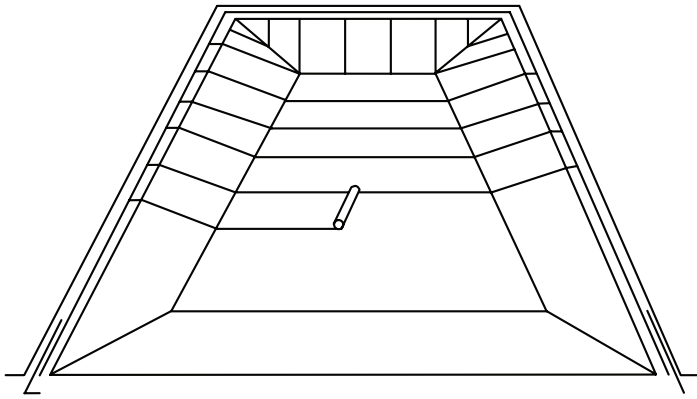
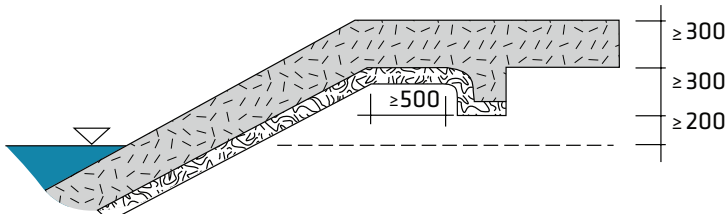

Figure 8 Recommended panel layout for sloping sites
Figure 9 Typical anchor trench (all dimensions shown are typical values only)
Sorbseal panels should be deployed in the direction of the slope as per Figure 8 and anchored at the crest of the slope (Figure 9). End (or transverse) overlaps on steep slopes should be avoided. If overlaps on slopes are unavoidable, please consult your local Geofabrics branch for information on custom extra-long GCL rolls.
- An anchor trench should be used at the top of slopes steeper than 7H:1V. (see Figure 9 for a typical anchor trench detail);